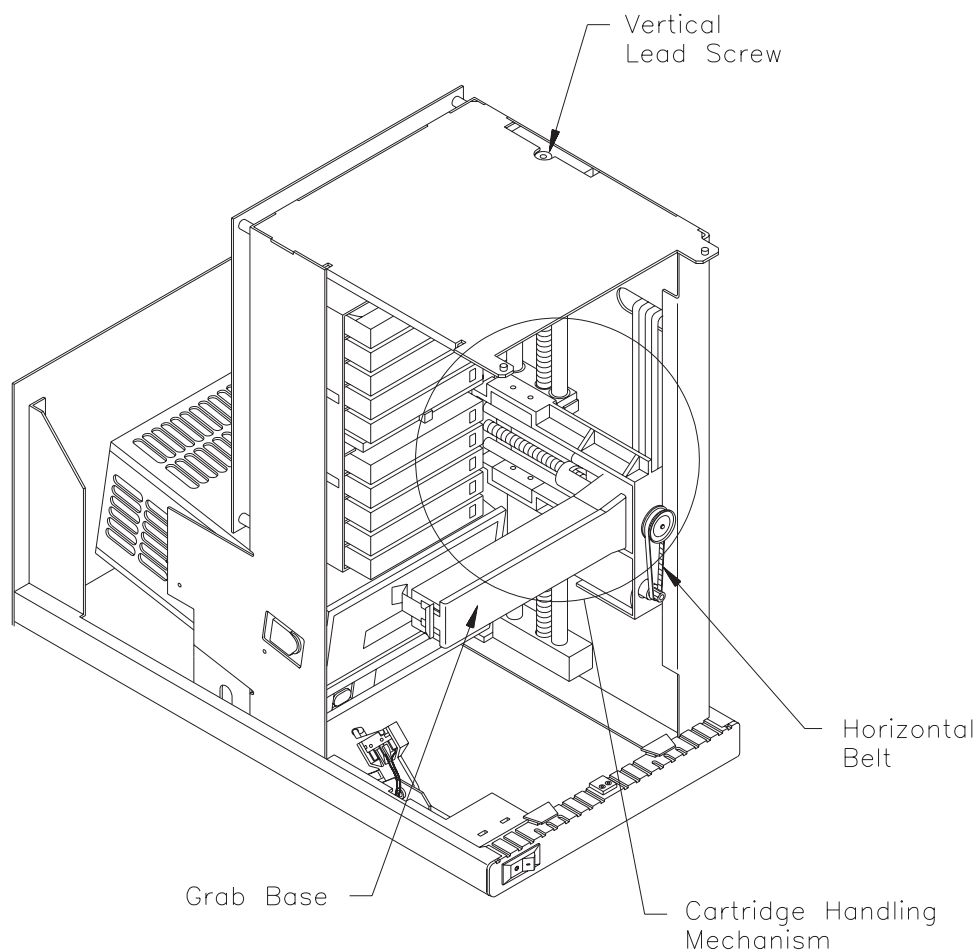

Figure 11-1 Grab base, CHM, horizontal belt, and vertical lead screw
4. Make certain the grab base is positioned above the CTS. To move the grab base up, use a 1/8-inch flat-blade screwdriver to turn the vertical lead screw clockwise. Figure 11-1 shows the location of the CHM, the grab base, the horizontal belt, and the vertical lead screw.